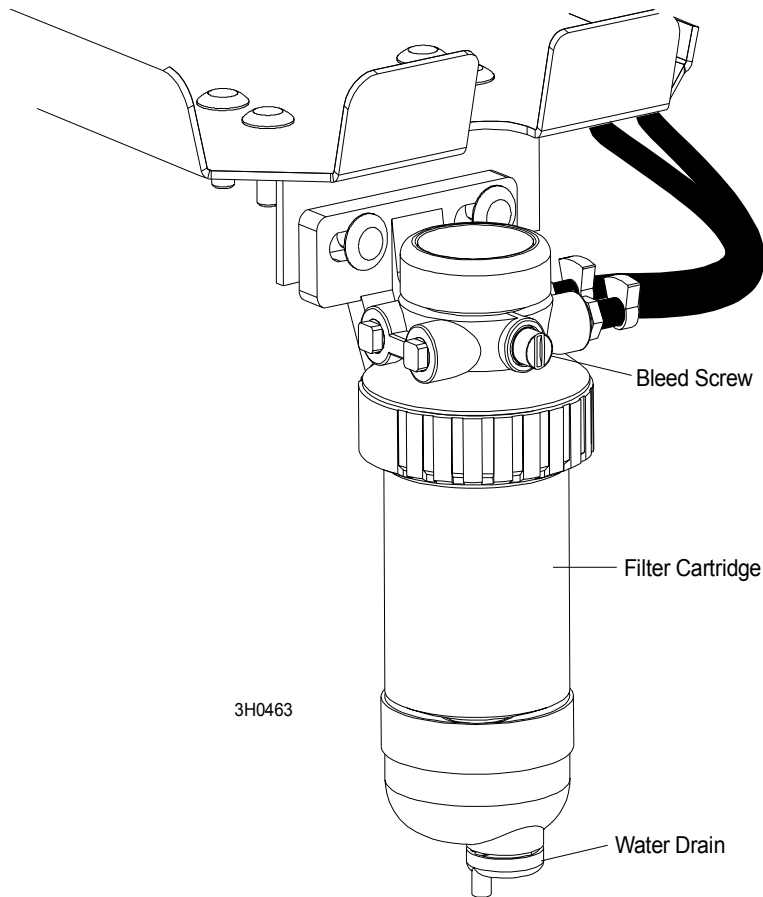

FIG. 2-1
**See Figure 2-1.** Replace the primary fuel filter cartridge every 1500 hours or one year of operation. After replacing the filter cartridge, loosen the air bleed screw and operate the fuel pump bail until fuel begins to flow from the valve and is free of air bubbles. Tighten the bleed screw. Inspect the water separator bowl periodically and drain the bowl as required by turning the drain cap counterclockwise as viewed from the bottom.